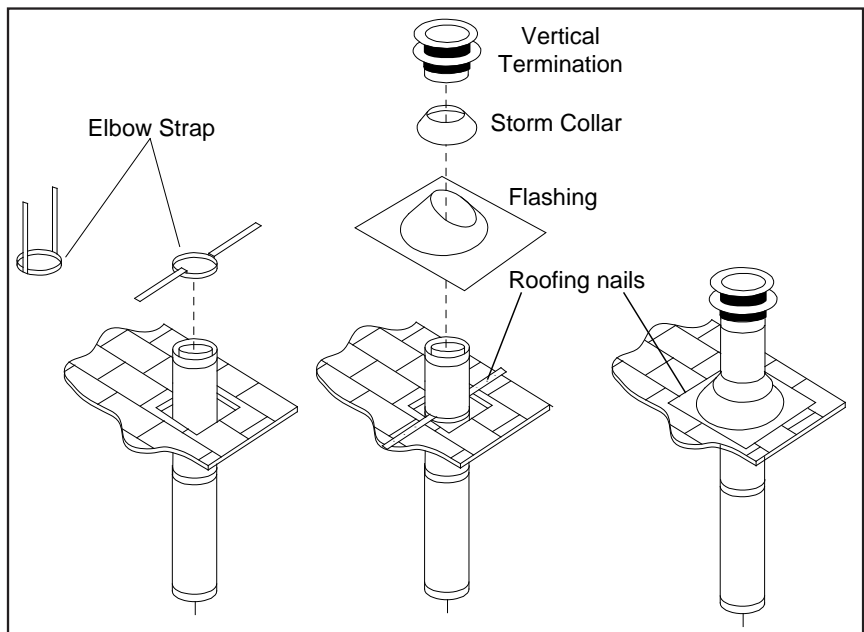

Figure 45: Vertical Vent Termination
- Step 3.** To install the Round Support Box/Wall Thimble in a flat ceiling, cut a **10 " (25.4 cm)** square hole in the ceiling, centered in the hole drilled in Step 2. Frame the hole as shown in Figure 45.
- Step 6.** Once the pipe sections have been joined, and run up through the hole in the roof, slip an elbow strap over the exposed sections, bend the support straps outwards, and push the elbow strap down to the roof level, as shown in Figure 45. Tighten the clamp around the pipe section. Use a level to make sure the pipe is truly vertical. With roofing nails, secure the support straps to the roof. Seal the nails holes heads with non-hardening mastic. Trim the excess length of the support straps that extend out beyond the edge of the flashing.
- Step 9.** Slip the storm collar over the pipe, and push it down to the top of the roof flashing as shown in Figure 45. Use the non-hardening sealant around the joint between the pipe and the storm collar.